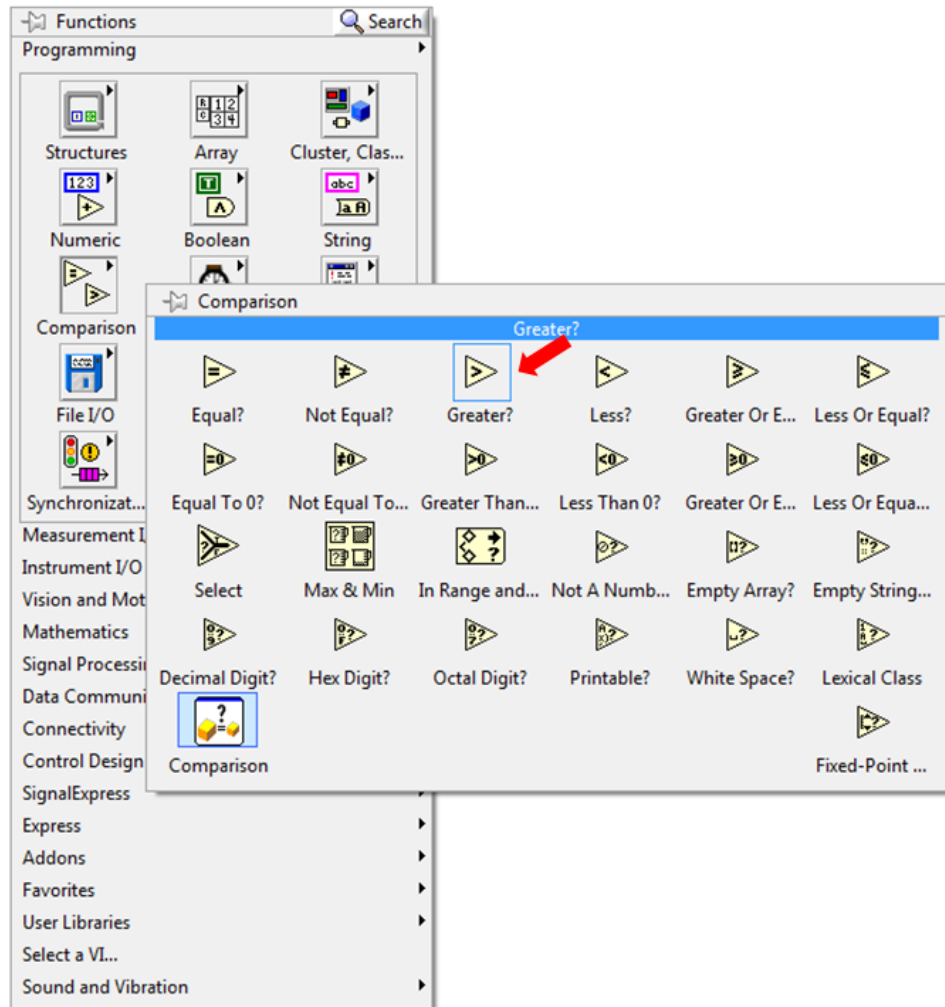
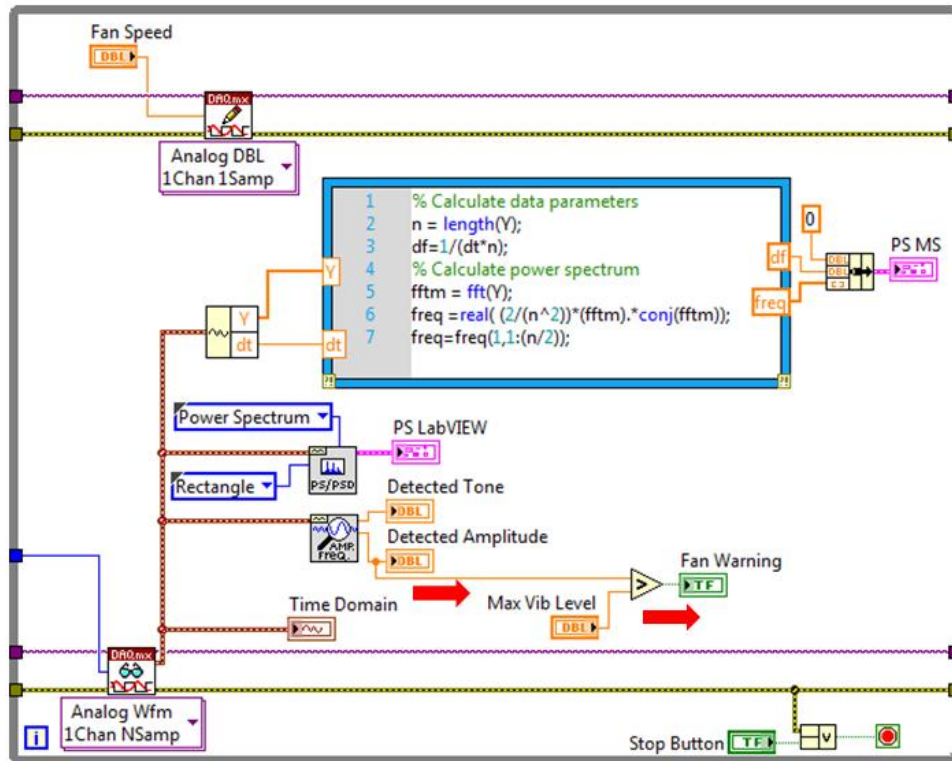

Figure 50. The Greater? function will compare two numbers and output a Boolean True if the top number is greater than the
Figure 51. The Greater? comparison compares the amplitude of the largest power tone with a user specified value.
7. Place a **Greater?** function from the Comparison Palette (Figure 50) in the location show in Figure 51.
8. Wire the **Greater?** function as seen in Figure 51.